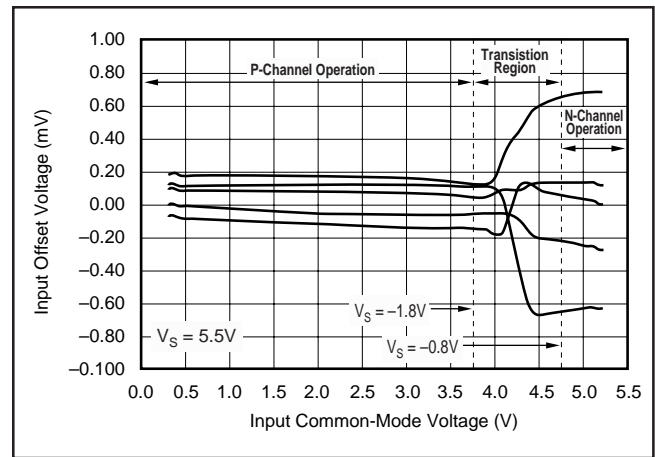
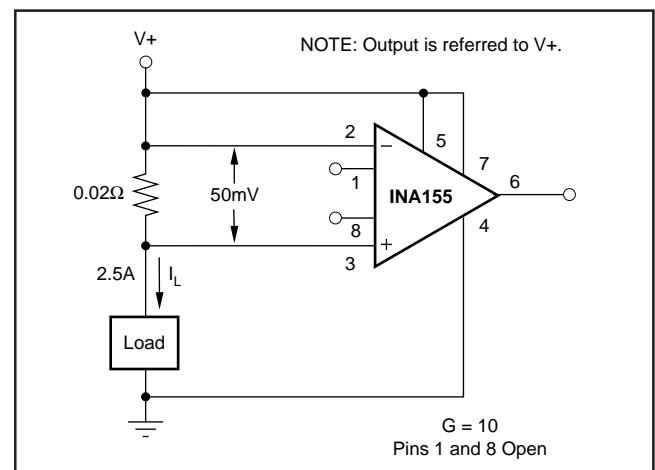

FIGURE 6. Input Offset Voltage Changes with Common-Mode Voltage.
FIGURE 7. Single-Supply, High-Side Current Monitor.
NOTES: (1) For further information, refer to typical performance curves on common-mode input range. (2) Operation above  $(V+) - 1.8V$  (max) results in reduced common-mode rejection. See discussion and Figure 6 in the text of this data sheet. (3) Does not include error and TCR of additional optional gain-setting resistor in series with  $R_G$ , if used.
The internal amplifiers have rail-to-rail input stages, achieved by using complementary n- and p-channel input pairs. The common-mode input voltage determines whether the p-channel or the n-channel input stage is operating. The transition between the input stages is gradual and occurs between  $(V+) - 1.8V$  to  $(V+) - 0.8V$ . Due to these characteristics operating the INA155 with input voltages within the transition region of  $(V+) - 1.8V$  to  $(V+) - 0.8V$  results in a shift in input offset voltage and reduced common-mode and power supply rejection performance. Typical patterns of the offset voltage change throughout the input common-mode range are illustrated in Figure 6. The INA155 can be operated below or above the transition region with excellent results. Figure 7 demonstrates the use of the INA155 in a single-supply, high-side current monitor. In this application, the INA155 is operated above the transition region.